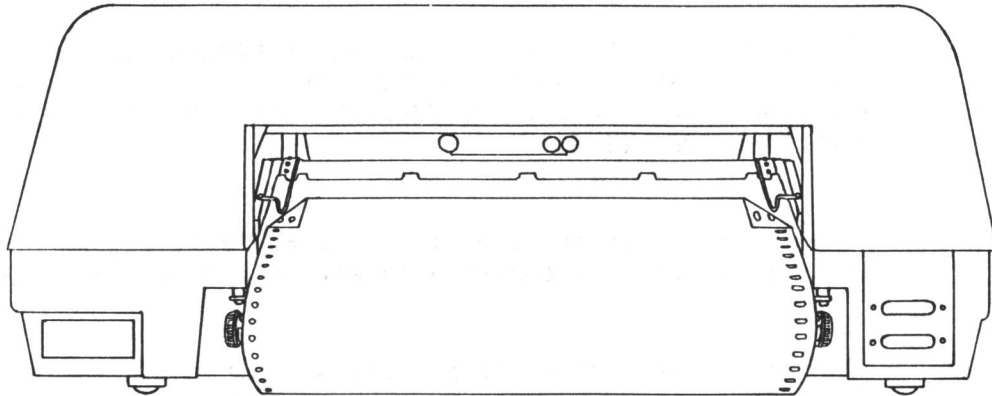

Figure 1-15
5. Feed the media through the back under the media guides (see Figure 1-15).